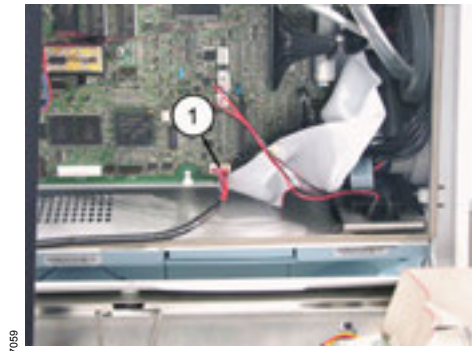

Fig. 53 Detail view of Central Control Board: Cable socket
- 3 Connect the cable socket (Fig. 53/1) to the Central Control Board.